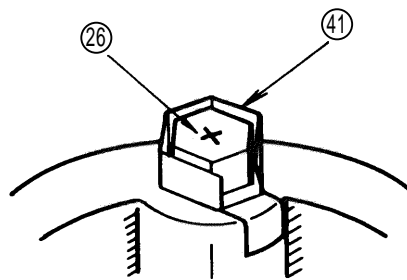

Fig. 3
As illustrated in Fig. 3, be sure to bend the click of the Special Washer (27) toward the inside of the Stator Ass'y (41) after tightening the M4 x 70 Hexagon Hd. Tapping Screw (26)